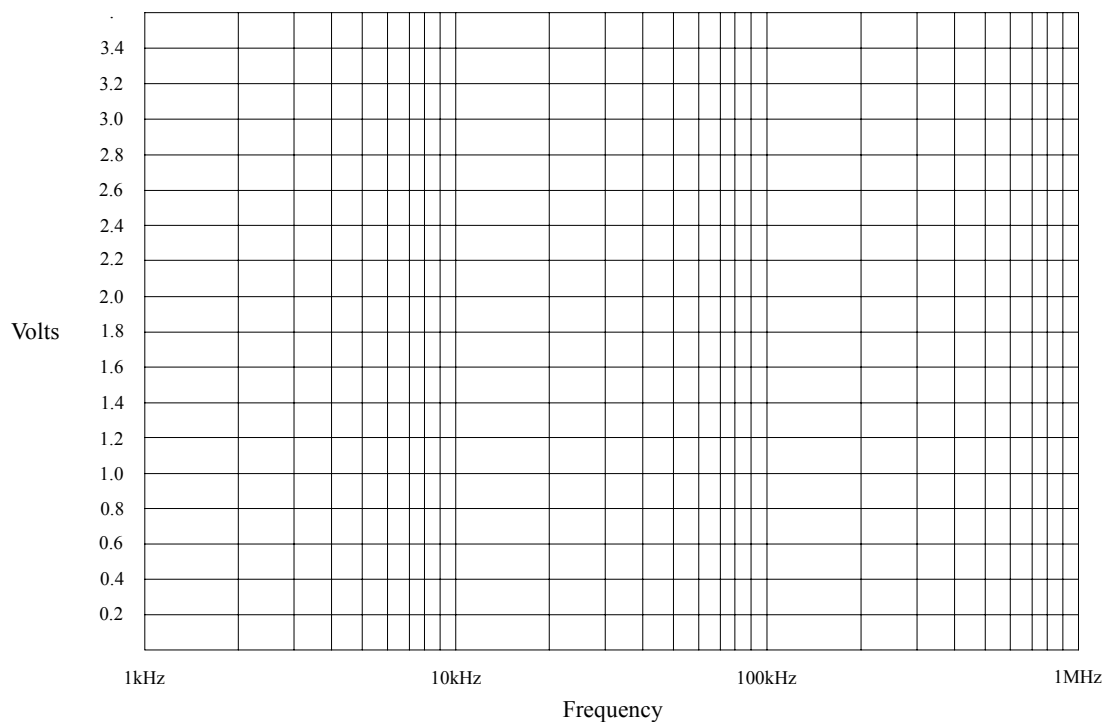

Figure 1
- Use the log/lin graphs in your student workbook to plot each of the frequency response curves. Each of these graphs has the form shown in Figure 1. The X axis represents frequency on a logarithmic scale and the Y axis represents voltage on a linear scale.